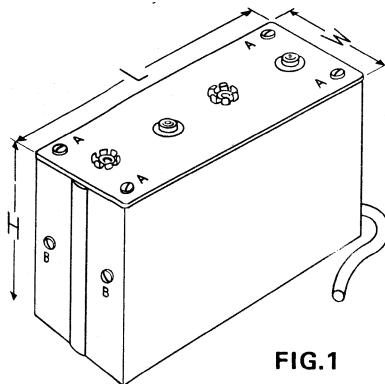

FIG.1
- (i) Before connecting supply, remove the four screws referenced 'A' in Fig. 1 and raise top plate which is joined by two wires to the internal circuit.
Removal of Wrap: Should it be necessary to gain access to the interior of the unit, withdraw the six screws referenced A and B in Fig. 1, raise and tilt top plate and lift off wrap via top of unit.